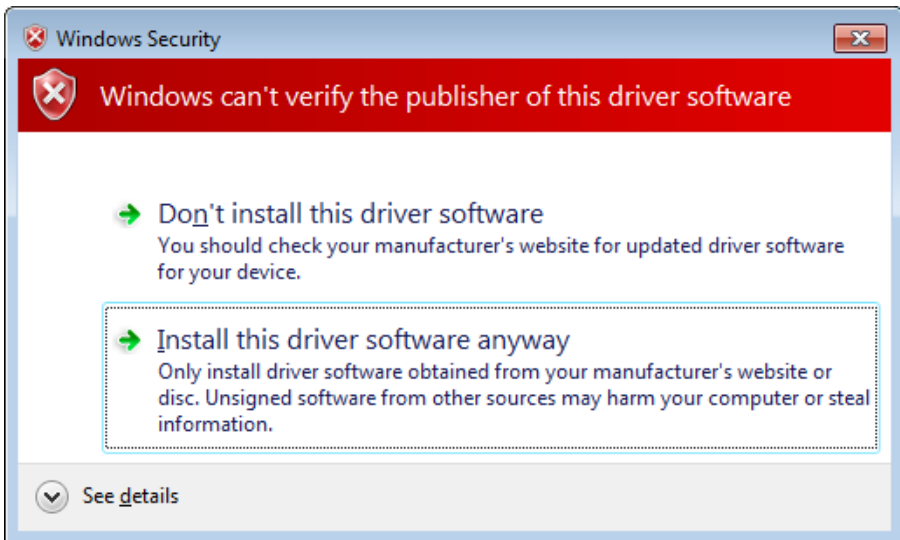

Figure 1-1
- 5、 Waiting done. If following page appear (Figure 1-1), for the old hardware, which have the following device name(DSLogic/DSLogic Pro/DSCope/DSCope20), please select **Install this driver software anyway**